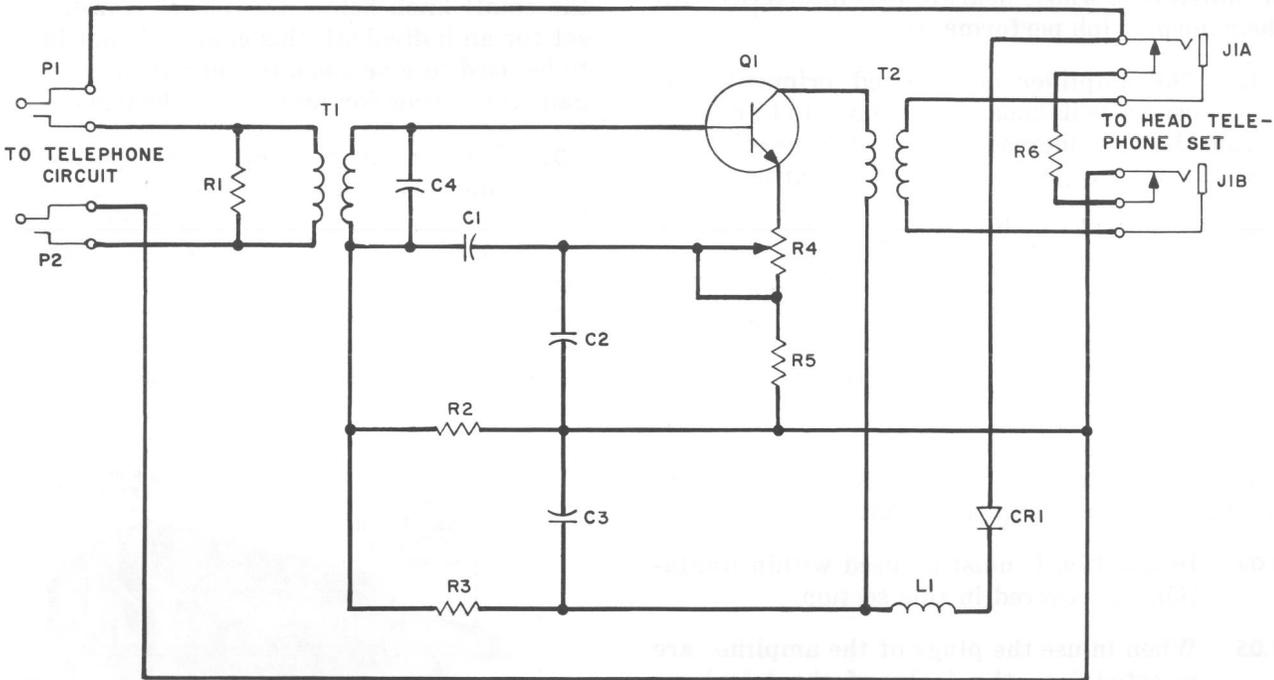

Fig. 3 – Schematic
**2.02** The amplifier circuit is as shown in Fig. 3 and has a gain from approximately  $-2\text{db}$  to  $+20\text{db}$ . The nominal gain is  $20\text{db}$  but due to variations in transistors and other components, the gain may range from  $-2\text{db}$  at the minimum setting to  $+22\text{db}$  at the maximum setting. The required operating voltage is approximately 5 volts which is obtained from the transmitter battery supply of the telephone circuit.